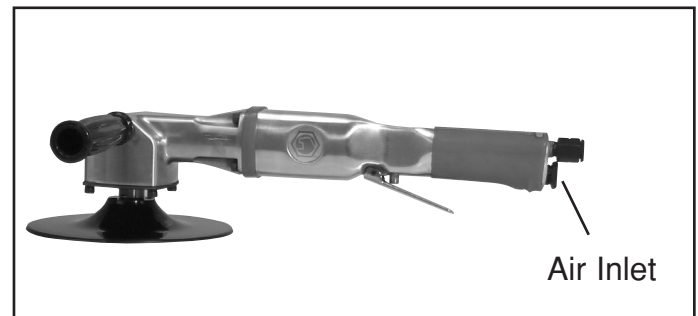

Figure 1
The air inlet (A) Figure 1, used for connecting air supply, has standard 1/4" NPT American Thread.
Lubricate the tool daily with a good grade of air tool oil. If no air line oiler is used, run a teaspoon of oil through the tool. The oil can be squirted into the tool air inlet (A) Figure 1, or into the hose at the nearest connection to the air supply, then run the tool. A rust inhibitive oil is acceptable for air tools.